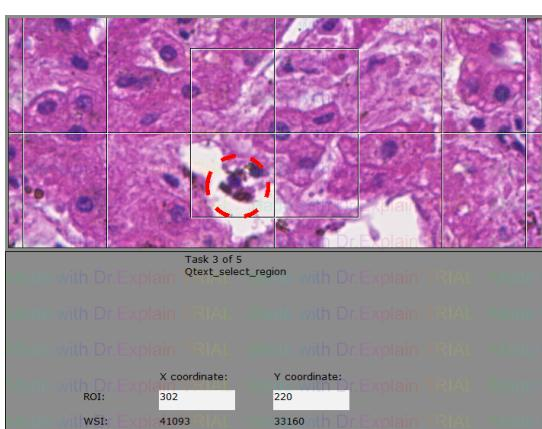

Figure 1
2. Test will automatically give you the correct X-Y coordinates on the ROI and WSI (*Figure 1*)